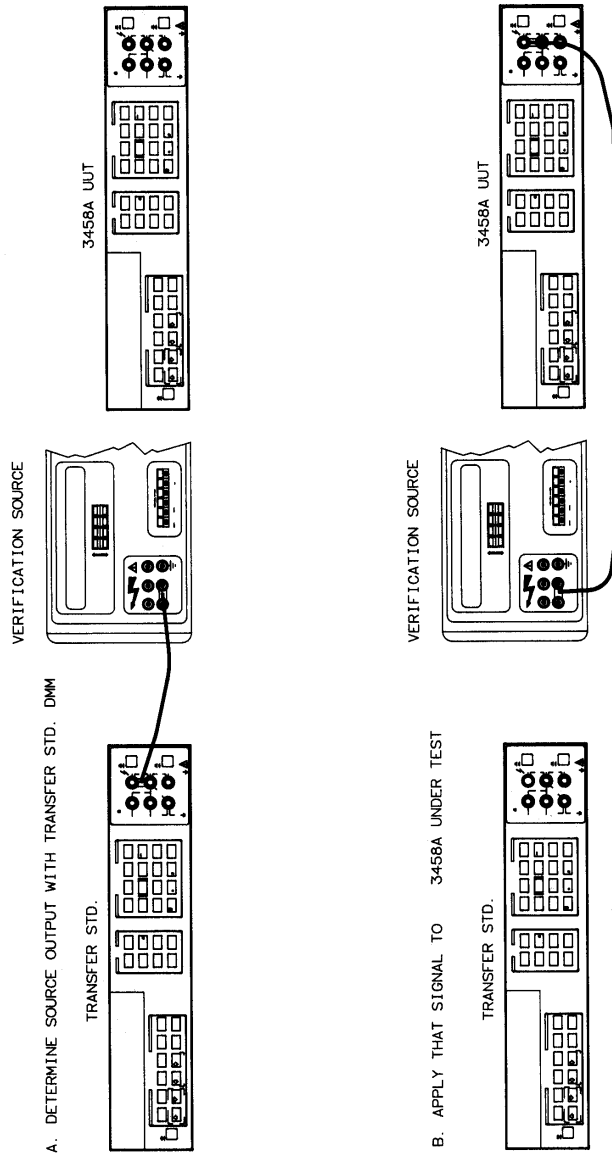

Figure 4-1 General test procedure
- 9** Connect the Verification source to the transfer standard DMM and determine the source output (see Figure 4-1 (A)). Record this value on the Test Card under “Transfer Standard Reading”.
- 10** Disconnect the Verification Source from the transfer standard DMM and connect it to the 3458A under test (see Figure 4-1 (B)). Record this value on the Test Card under “Unit Under Test Reading”.